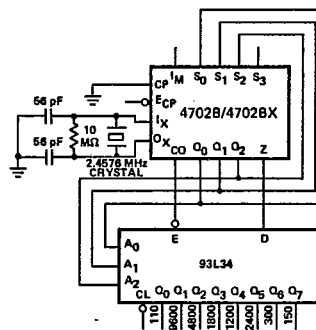

Fig. 2
**Fixed Programmed Multichannel Operation** — Figure 2 shows a simple scheme that generates eight bit rates on eight output lines, using one 4702B/4702BX and one 93L34 8-Bit Addressable Latch. This and the following applications take advantage of the built-in scan counter (prescaler) outputs. As shown in the block diagram, these outputs (Q0 to Q2) go through a complete sequence of eight states for every half-period of the highest output frequency (9600 Baud). Feeding these Scan Counter outputs back to the Select inputs of the multiplexer causes the 4702B/4702BX to interrogate sequentially the state of eight different frequency signals. The 93L34 8-Bit Addressable Latch, addressed by the same Scan Counter outputs, reconverts the multiplexed single output (Z) of the 4702B/4702BX into eight parallel output frequency signals. In the simple scheme of Figure 2, input S3 is left open (HIGH) and the following bit rates are generated: